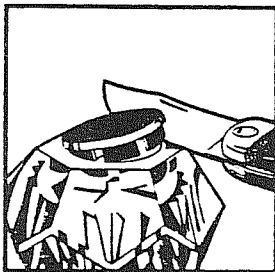

Figure 10
2. Remove handle button (1). Remove screw (2) and lift off handle (3 or 4). Figure 10.